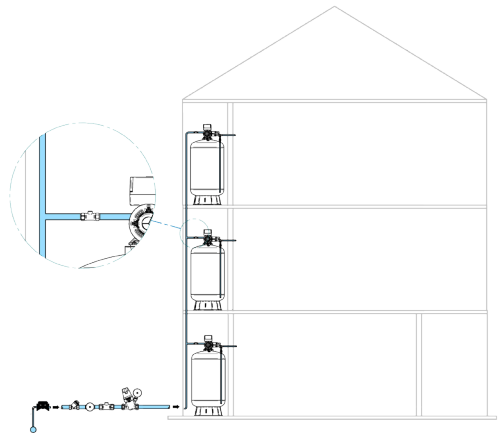

Fig. 10
Often affected by poor water supplies Mainsboost Plus offers the perfect solution. For multiple occupancy buildings again the upstream line-in kit is located next to the rising main and sized to meet the demand of the entire building. Each apartment then has its own vessel and pump located within the property, sized to meet the apartments own demand (see Fig. 10).
- c) Once on its side screw the Mainsboost vessel connector provided in the upstream line-in kit into the tank elbow at the base using suitable thread seal such as PTFE tape or liquid thread lock (see Fig. 10).